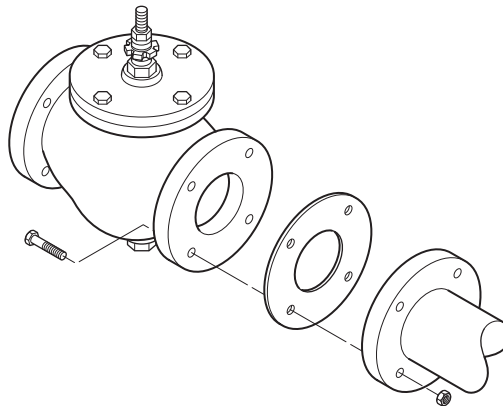
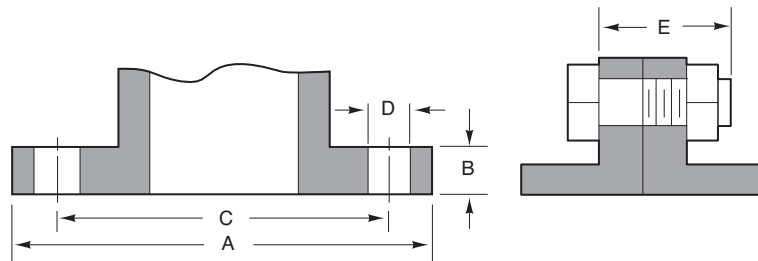

Figure-5 Installation of Flanged End Valves.
Figure-8 Flange Dimensions.
5. Figure-5 shows the proper way a flanged valve should be mounted. See Figure-8 for flange and flange bolt details.
Table-10 Flange Detail for American Standard 125 lb. Cast Iron Pipe Flanges (Figure-8).